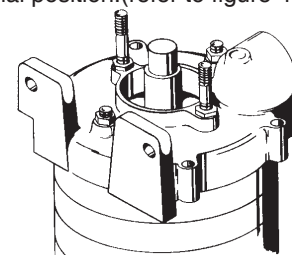

Figure 4-10
19. Install two nuts (#20) onto the guide rods and tighten enough to hold the entire assembly in place. Do not try to tighten them to their final position.(refer to figure 4-10)